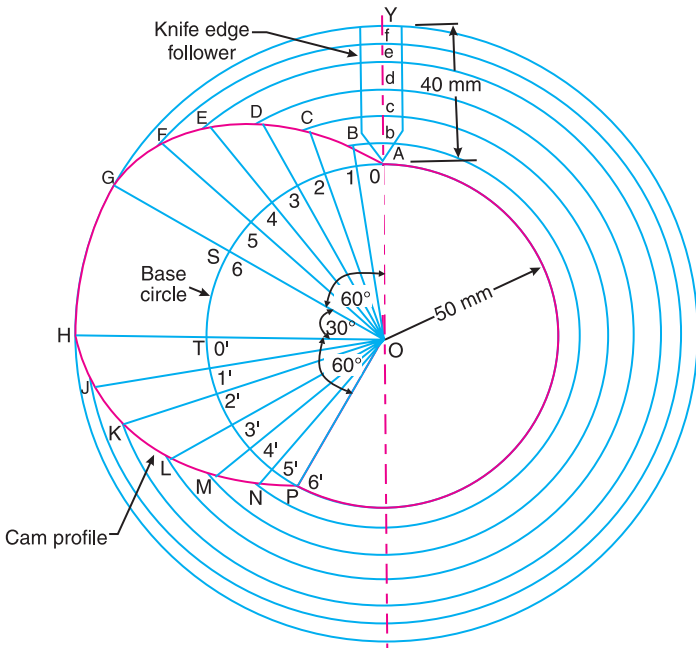

Fig. 20.11
The profile of the cam when the axis of the follower passes through the axis of the cam shaft, as shown in Fig. 20.11, is drawn as discussed in the following steps :
2. Since the axis of the follower passes through the axis of the cam shaft, therefore mark trace point A , as shown in Fig. 20.11.
5. Join the points 1, 2, 3 ...etc. and $0', 1', 2', 3', \dots$ etc. with centre O and produce beyond the base circle as shown in Fig. 20.11.